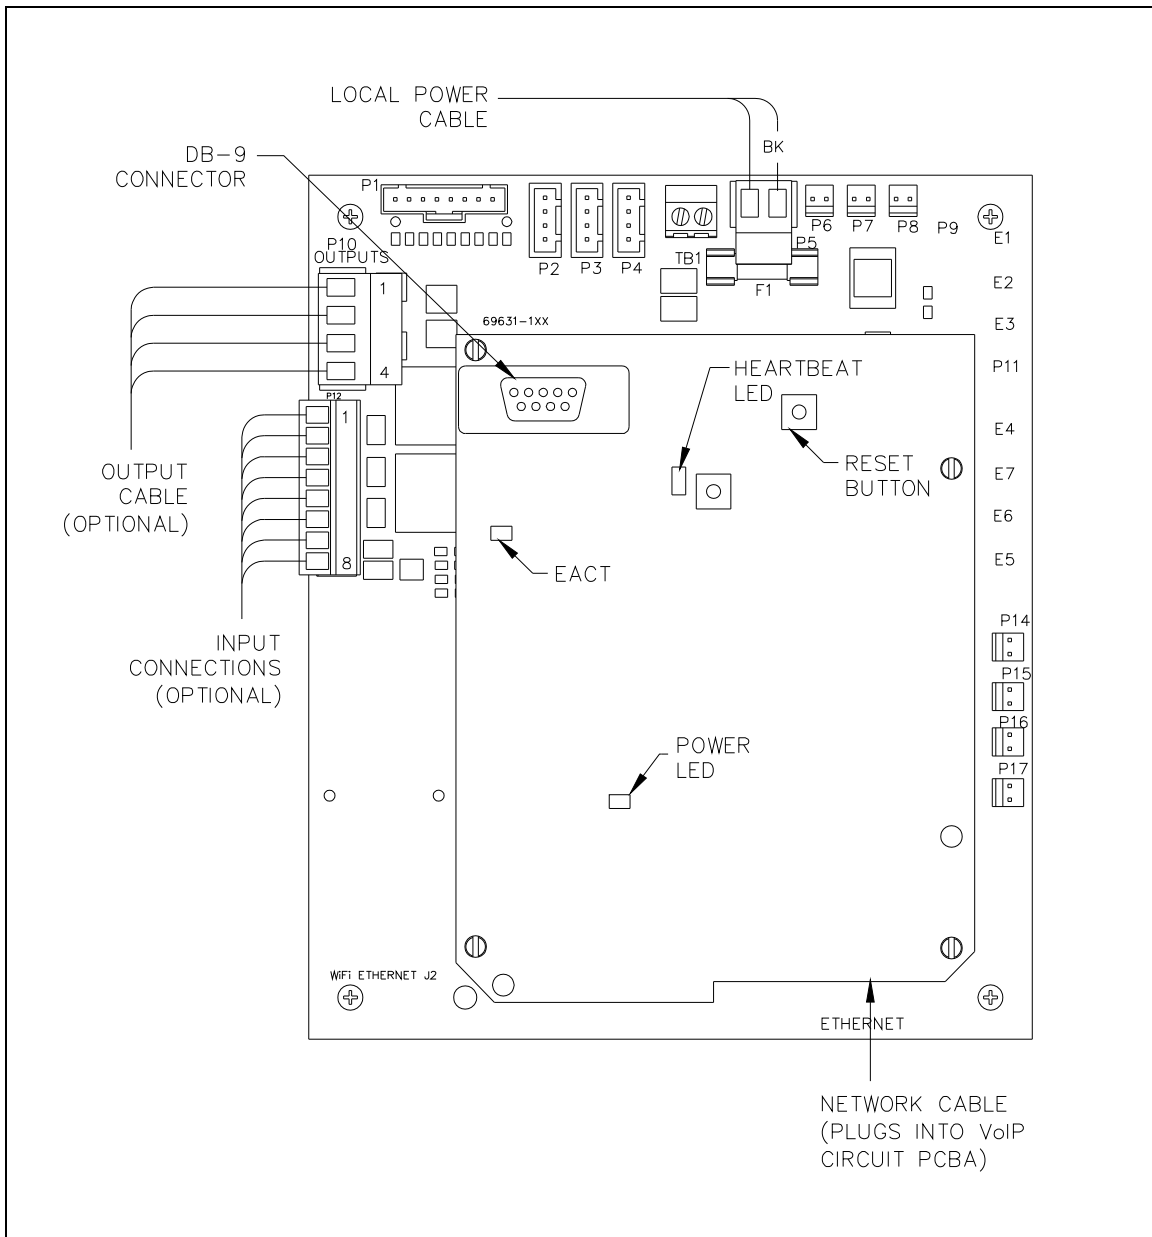
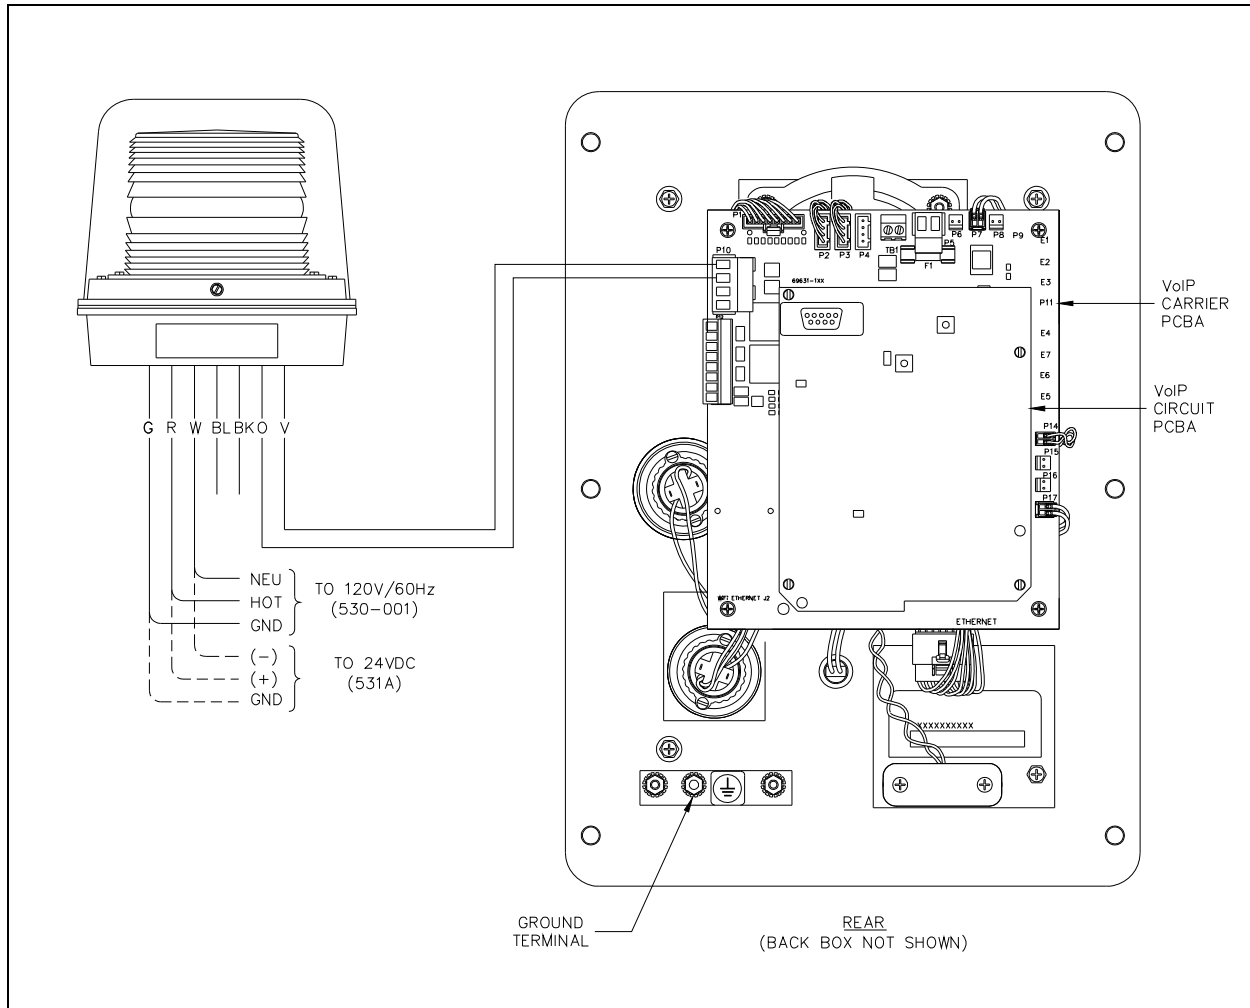

Figure 9. VoIP Telephone PCB Assembly
Figure 10. GAI-Tronics Models 530-001 and 531A Strobe Connection Details
4. The connecting line should be equipped with an RJ45 modular connector. Plug the connector into the mating network connector on the VoIP PCBA mounted to the Carrier PCBA. Refer to Figure 9.
5. Connect any required peripheral devices. Refer to Figure 9 and Figure 10.
After all the field wires are pulled through the rear enclosure, install all connections as indicated below. Refer to Figure 9 for wiring details. Refer to Table 5 on page 17 for the recommended conductor sizes.
When PoE is not available, a separate, isolated 24–48 V dc power supply is required. See the “Replacement and Optional Parts” chart on page 23 for recommended optional plug-in power supply (required only if PoE is not available.) A removable terminal block P5 has been provided for connection of local power to the telephone. Connect the positive conductor to the (+) terminal and the negative conductor to the (–) terminal of P5. See Table 2 for wiring and Figure 9 for the location of P5.
The function of each input is configurable. Inputs can be configured for one of the following modes: On, Off, or On/Off. The signals can also be inverted between active high (INVERT) or active low (NORMAL). Activation of these inputs can be configured to update a SYSLOG or generate an email. Please refer to Figure 9 on page 15 of this manual and the “Logic Settings” section of GTC Pub. 42004-396, “VoIP Telephone Configuration Guide” for programming instructions for these inputs.
The function of each output is configurable. Outputs can be configured for one of the following modes: On, Off, Pulse, Mute, Ring, Call, Connect, Hook, In Use, Ring Cadence, Ring Out, Page, Registered, or Emergency. In some modes, the duration of the activation or on/off times can also be set. Please refer to Figure 9 on page 15 of this manual and the “Logic Settings” section of GTC Pub. 42004-396, “VoIP Telephone Configuration Guide” for programming instructions for these outputs.
In most applications, this output is used to operate a GAI-Tronics Model 530-001/531A Strobe (sold separately). For connection details, please refer to Figure 10 or the Model 530-001/531A installation instructions included with the strobe (GTC Pub. 42004-395).
The Power LED located on the VoIP PCBA illuminates when power is applied to the telephone. Refer to Figure 9 on page 15 for location.
The Heartbeat LED located on the VoIP PCBA will flash once communication over the LAN is established. Refer to Figure 9 on page 15 for location.
The EACT LED located on the VoIP PCBA will turn ON when VoIP PCBA is connected to an Ethernet device and flash when data is being transmitted. Refer to Figure 9 on page 15 for location.